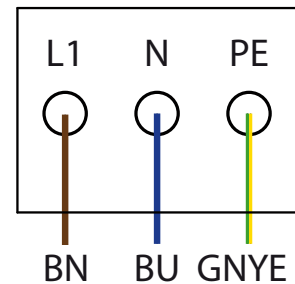

Figure 15: AC connection terminals
8. Insert AC lines completely into the spring terminal as specified by the labels. (Figure 15 on page 21)
11. Connect lines to the PCB terminal as specified by the labels (Figure 15 on page 21) with the specified tightening torque (chapter 7.2 on page 18).